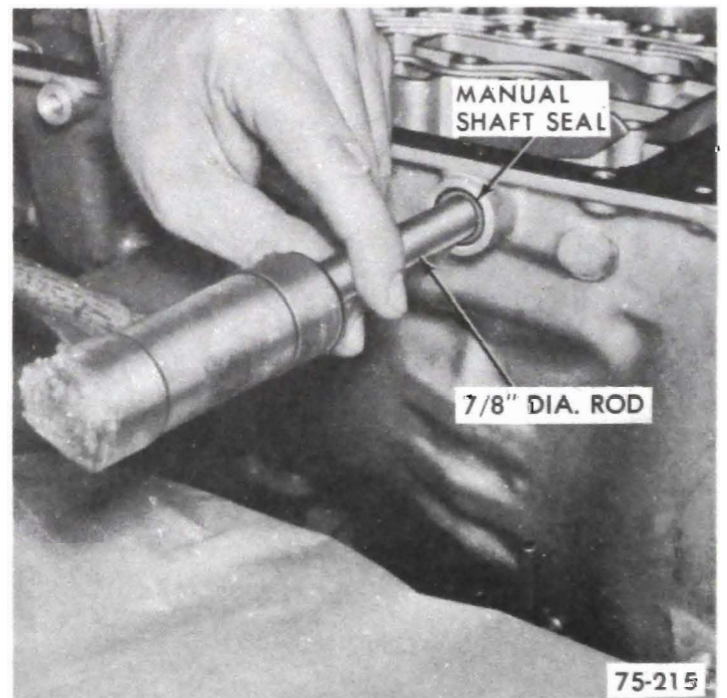

Figure 75-263
1. If a new manual shaft to case lip seal is necessary, use a 7/8 inch diameter rod and seat flush with case. See Figure 75-263.